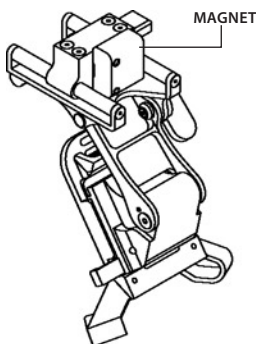

Figure 3-15. Locating the Magnet
- If the magnet is not removed, turn the ruggedized metal helmet mount in to unit maintenance for removal. See Figure 3-15 for location of magnet.
- (1) If the sacrificial window or objective lens cap is in place, remove it.
- (2) Turn monocular on.
- (3) Rotate the objective lens focus completely counterclockwise (while looking through the monocular).